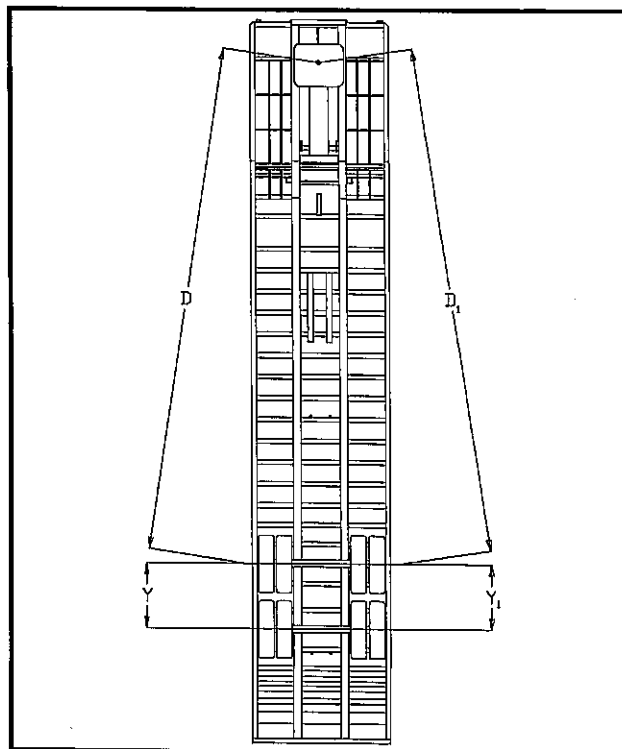

FIG. 6-10 CHECKING AXLE ALIGNMENT
- Measure (D) from the plumb bob to the center point on one end of the axle. Record this measurement (See Figure 6-10).
- Measure (D1) to the other end of the axle in the same manner as in Step d. Record this measurement (See FIG. 6-10).
e. Now align the rear axle to the front axle in the same manner using the torque arm for adjusting. The rear axle should be exactly parallel to the front axle. In other words, dimensions Y and Y1 in **Figure 6-10** should be the same.